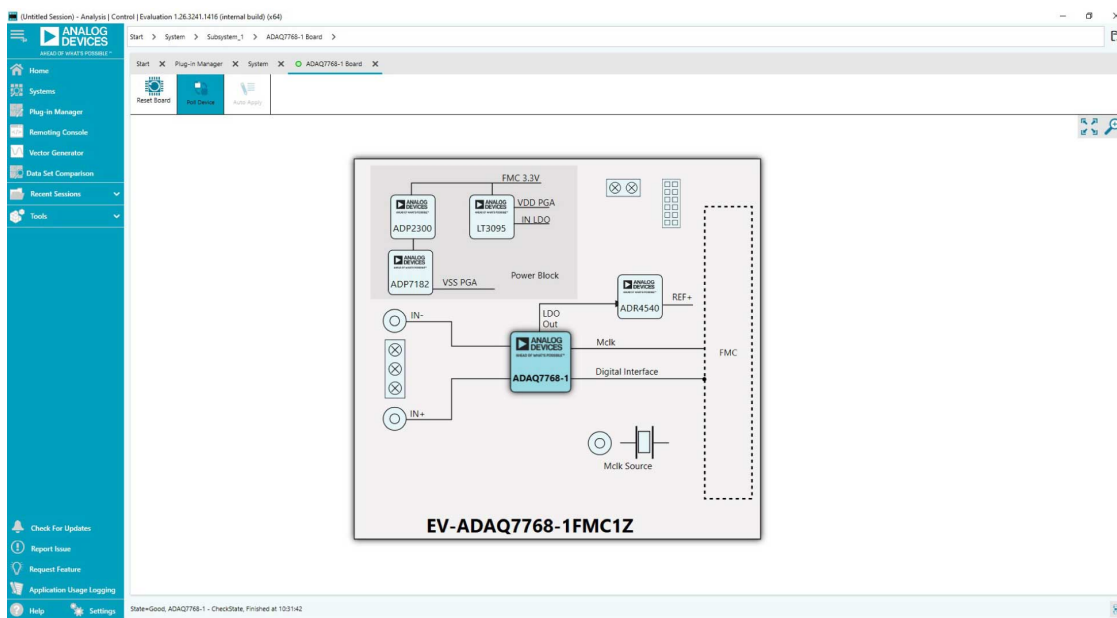

Figure 14. EV-ADAQ7768-1FMC1Z Board View
4. Double-click the EV-ADAQ7768-1FMC1Z board icon to open the window shown in Figure 14.